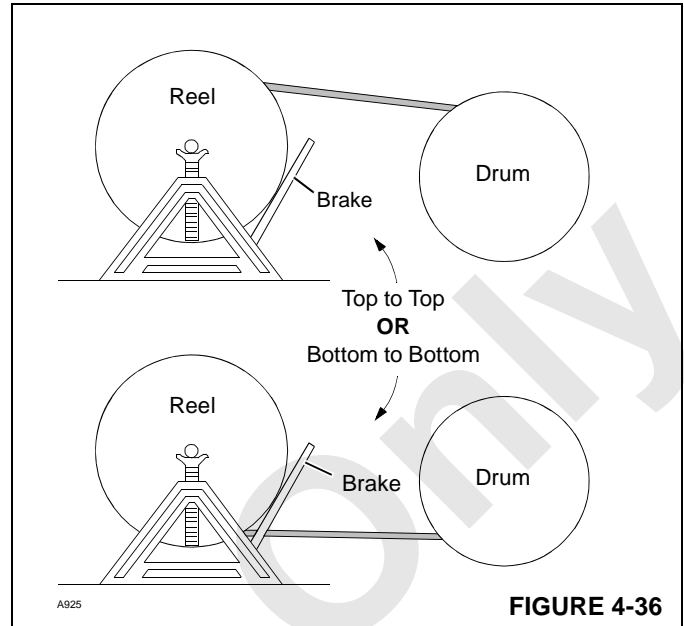

FIGURE 4-36
2. Provide a brake at shipping reel (see Figure 4-36) so wire rope can be wound tightly onto drum.
3. Avoid a reverse bend when winding wire rope onto drum: wind from top of reel to top of drum or from bottom of reel to bottom of drum as shown in Figure 4-36.